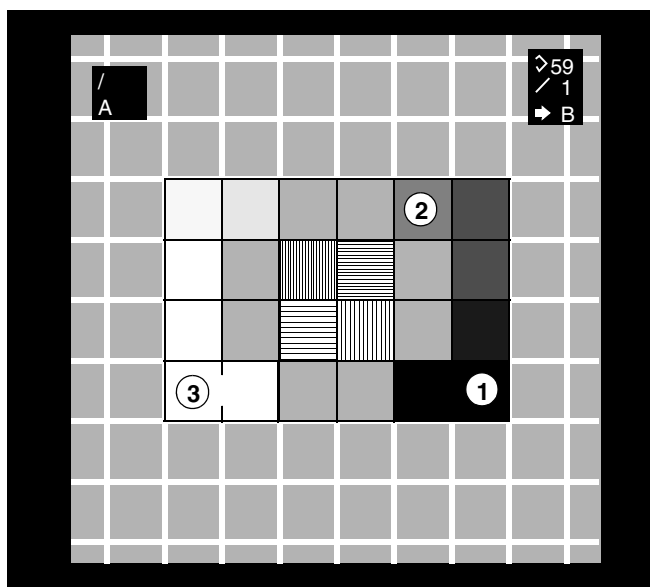

Fig. 1
- Change B until the 40% gray level (see Fig.1) corresponds to the nominal value for the film density Dnom. (see Tables 3 to 6).